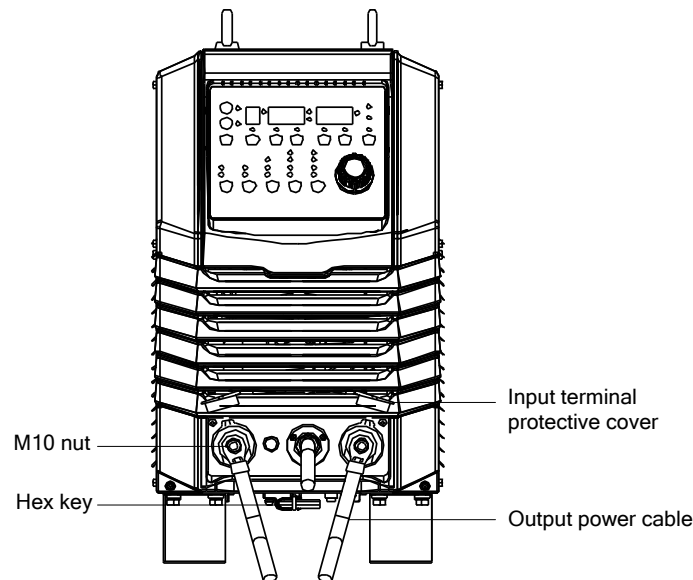

Figure 2-3 Schematic diagram of connecting the positive and negative output terminals with the welding power cables of the wire feeder and workpiece
1. Remove the protective cover of the output terminals. (See Figure 2-3.)
2. Take out the hex key from the bottom of the welder. See Figure 2-3.